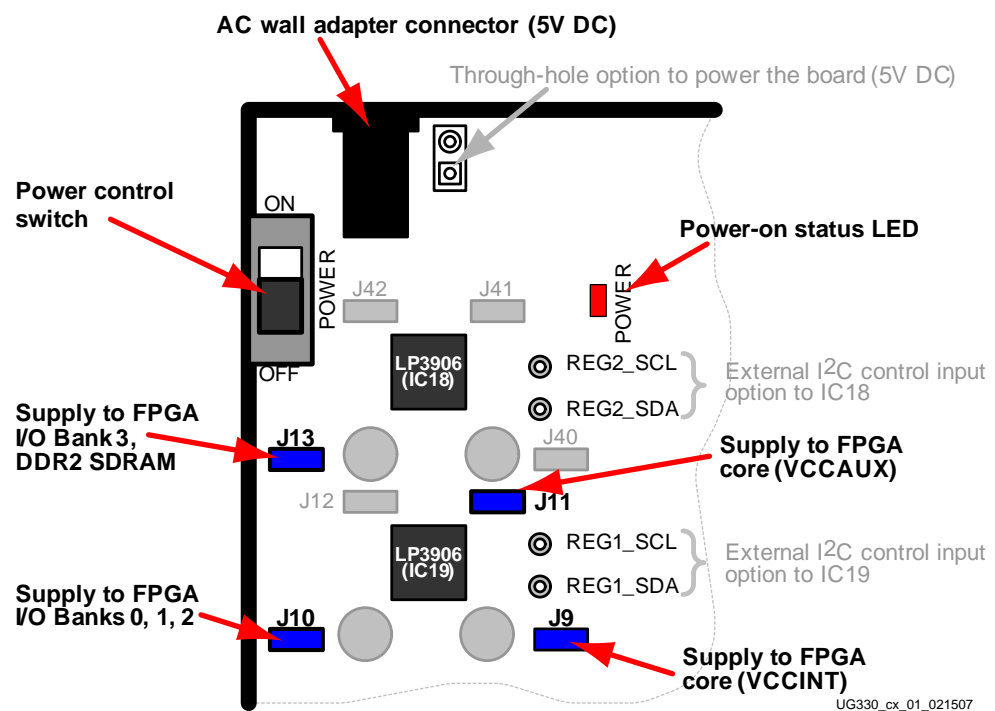

Figure 17-1: Spartan-3A/3AN Starter Kit Board Voltage Supplies
The voltage supplies are located in the upper left corner of the board, as shown in Figure 17-1.
All regulator output supplies have an associated series jumper, as indicated in Table 17-1 and shown in Figure 17-1. This allows for simple and easy current monitoring using just a multimeter.
- Remove the series jumper associated with the supply to be measured, shown in Table 17-2. Locate jumper indicated in Figure 17-1.
Each LP3906 regulator has an two-wire, I2C serial interface that optionally controls various functions, such as the regulator output voltage. As indicated in Table 17-3, the I2C interface can be controlled by the FPGA application using the I/O pins indicated or by some external controller using the through-hole mounting pads provided on the board, shown in Figure 17-1.